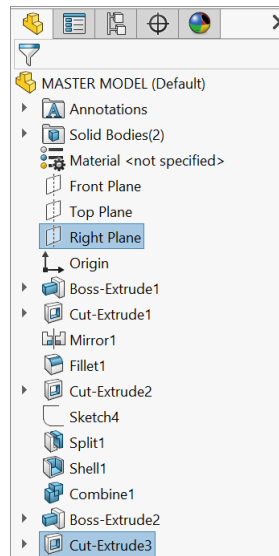

Fig. 50
Step 1. **Ctrl click Right Plane** and **Cut-Extrude3** features to select Plane and feature, **Fig. 50**.